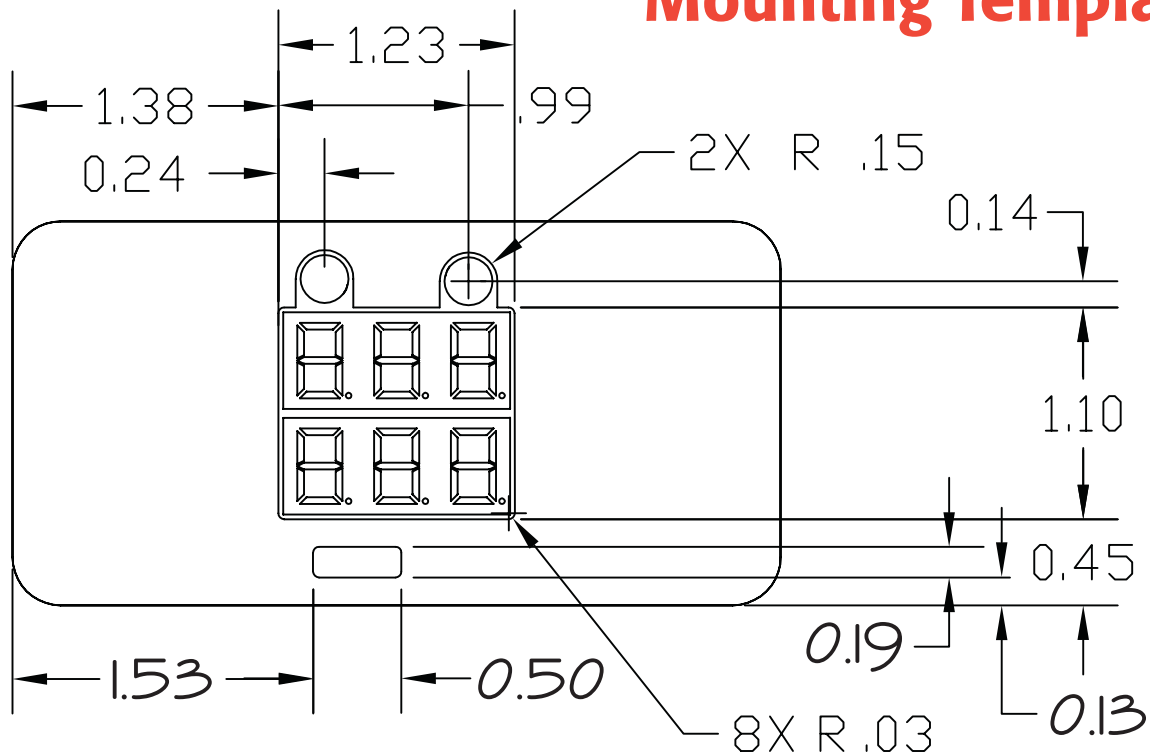

FIGURE 6 - HOUSING COVER
For Panel or Fascia mounting, Version (1) can be used. You will have to cut out holes in your fascia for the LEDs and the Indicator Lights. Four mounting holes are provided on the circuit board for mounting. You can also use Version (2) and mount the enclosure cover to your Fascia if you prefer a dressier appearance (Fig 3). For mounting templates see, Figures 6 and 7.